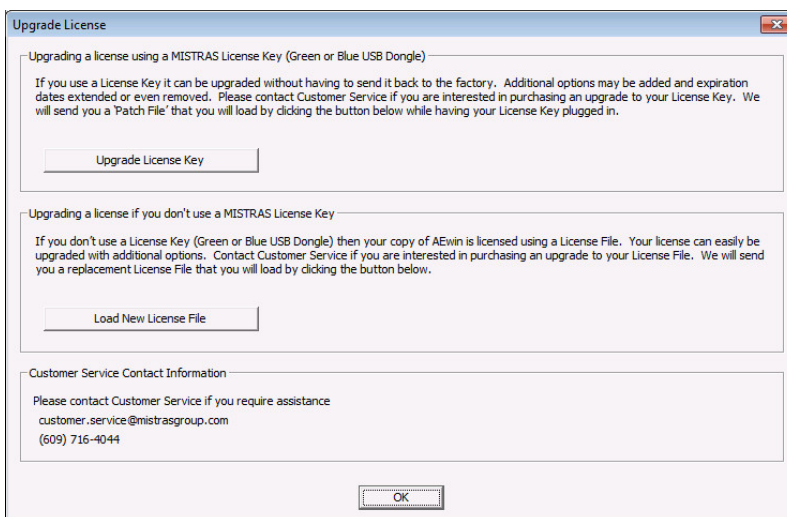

Figure 1-3. Upgrade License
- If the software displays a licensing error message on startup, such as the one in **Figure 1-3**, then click “More Options” to open the “MISTRAS Licensing” dialog box. From here, click the “Upgrade License” button found at the bottom left portion of the screen.